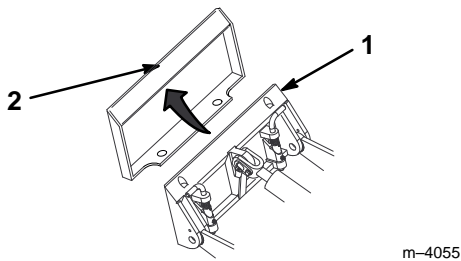

Figure 2
4. Position the mount plate into the upper lip of the receiver plate on the trencher (Fig. 2).